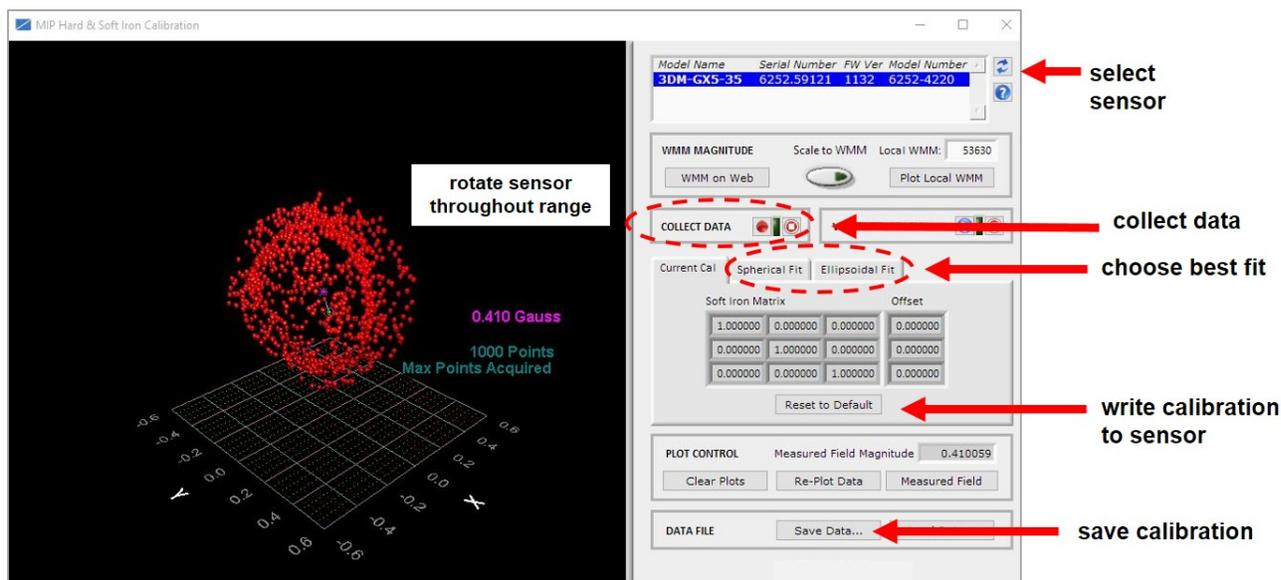

Figure 21 -Collect Calibration Data
- Click the Spherical Fit or Ellipsoid Fit button, depending on the application (*Figure 21 - Collect Calibration Data*). Spherical Fit is often best for applications with calibration rotations restricted to a 2D plane: for example, a ground vehicle or a boat, because it will not likely not be rotated on all three axis. Ellipsoid Fit is generally a better correction when soft iron effects are present but only if enough data points can be collected in all quadrants. If the range of motion is restricted in one dimension, the Spherical Fit may be